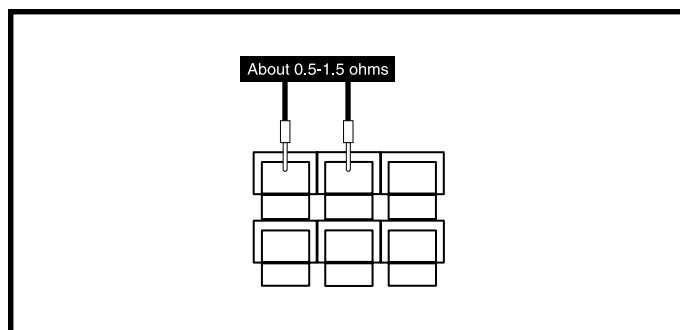

Figure 17. Connector 8a
6. Measure resistance across pin 1 (red) and pin 2 (black) on connector 8a. **See figure 17.**
- *If your multimeter indicates about 0.5-1.5 ohms, then replace the power interface harness (2) and retest the system.*
- *If your multimeter does not indicate about 0.5-1.5 ohms, then replace the right motor (8) and retest the system.*